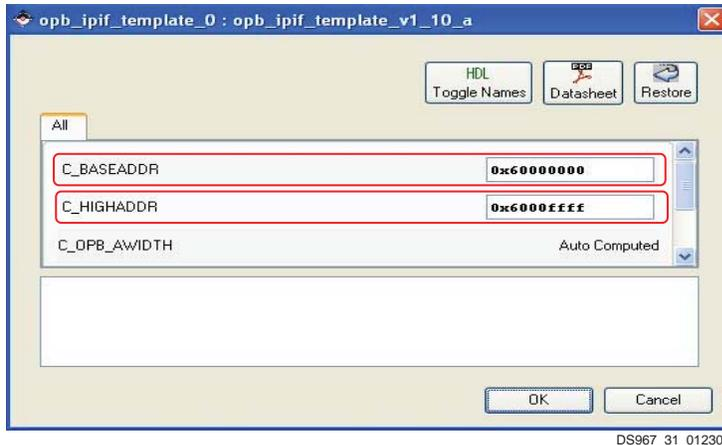

Figure 31: Specifying the Address Range for the Custom IP
6. In the `opb_ipif_template_v1_10_a` window shown in Figure 31, assign a valid `C_BASEADDR` to the `opb_ipif_template_0`, for example: the value `0x60000000`.